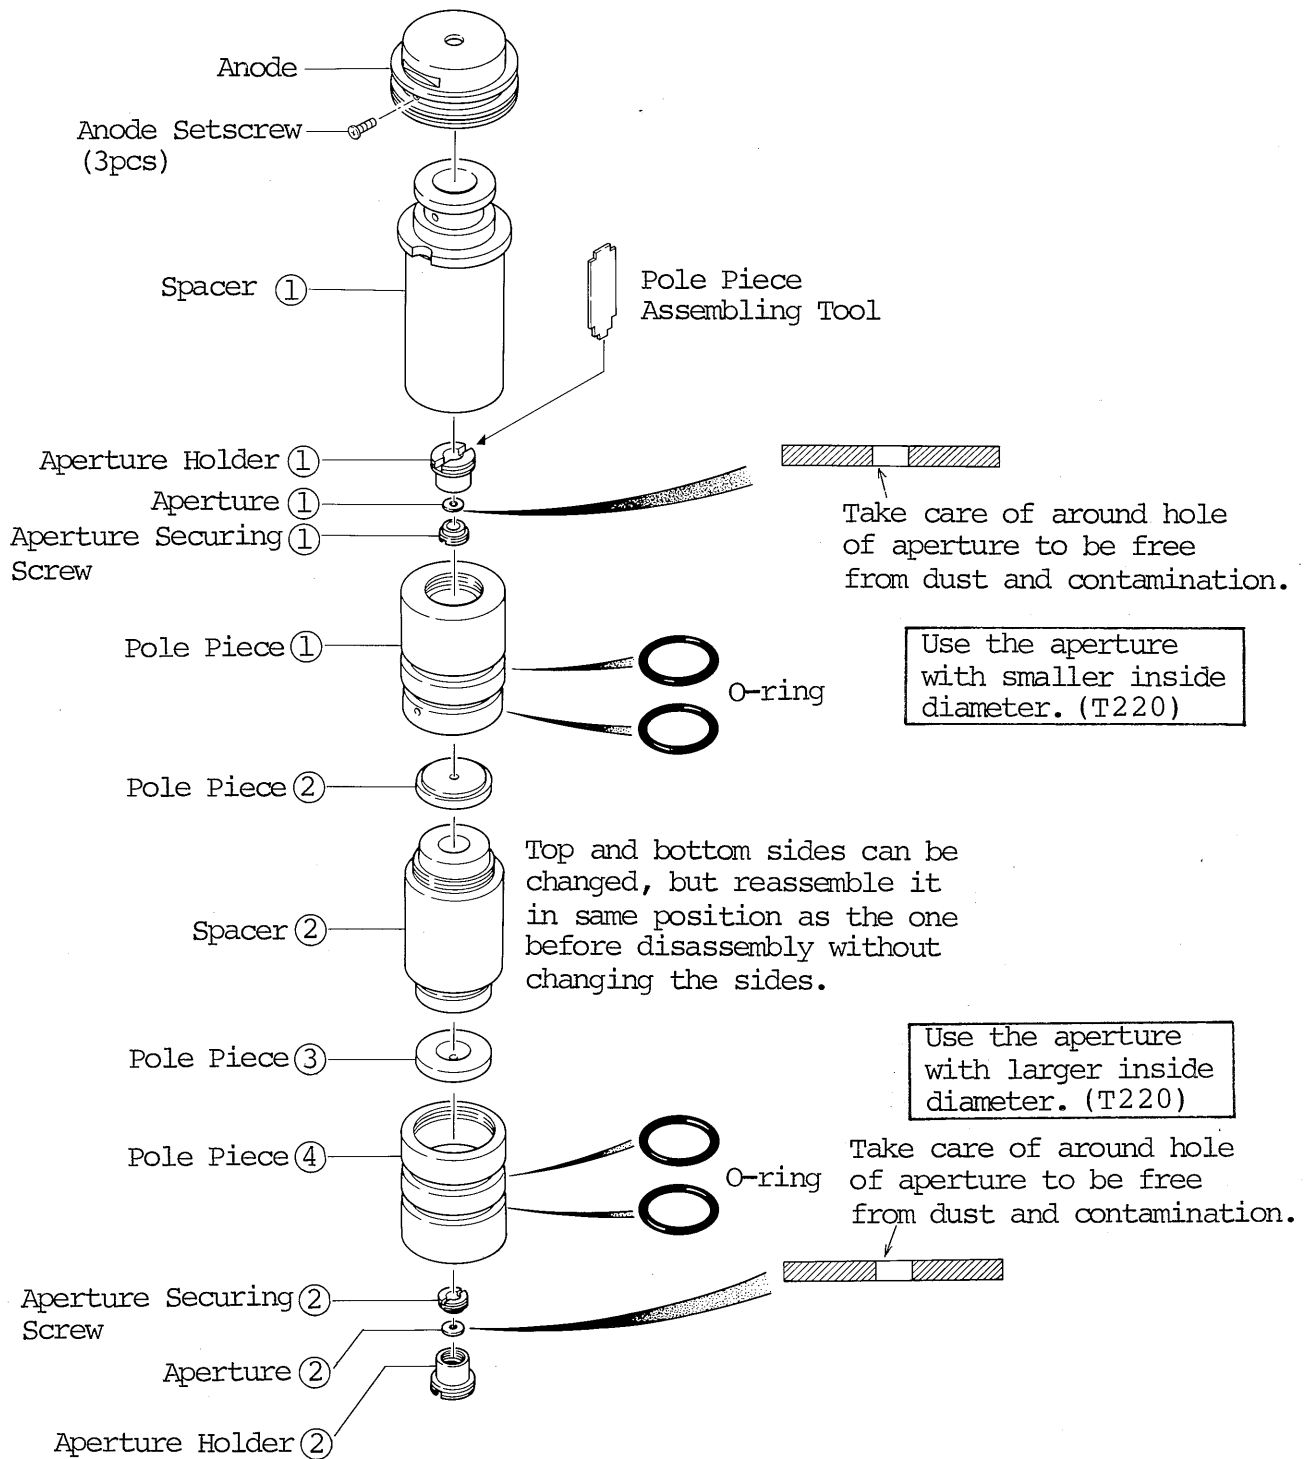

Fig. 6.4-2 Disassembling Pole Piece of Condenser Lens
(Refer to Fig. 6.4-2.)
Disassemble pole pieces by referring to Fig. 6.4-2.
3. Remove spacer ① from pole piece ① (Fig. 6.4-2) and loosen the aperture holder ① with assembly tool. Then, remove the pole pieces (Fig. 6.4-2).
4. Loosen the aperture ① with the assembly tool and remove it from the aperture holder ①.
5. Remove the aperture ② similarly as described in above item 4 and 5.